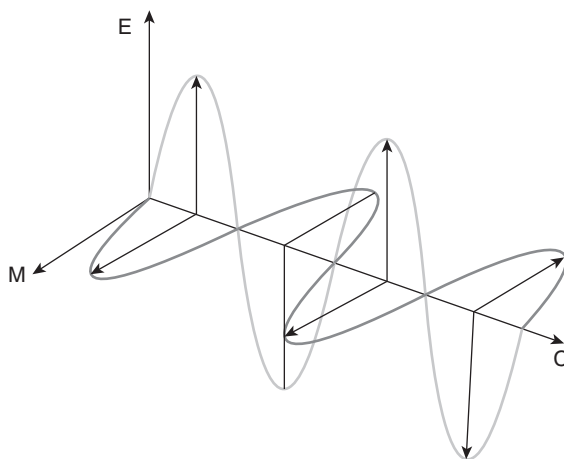

Figure 1 Planes of electromagnetic waves.
1. These are generated by fluctuation or oscillation of electric and magnetic fields, which are perpendicular to each other and are coplanar as shown in Figure 1.